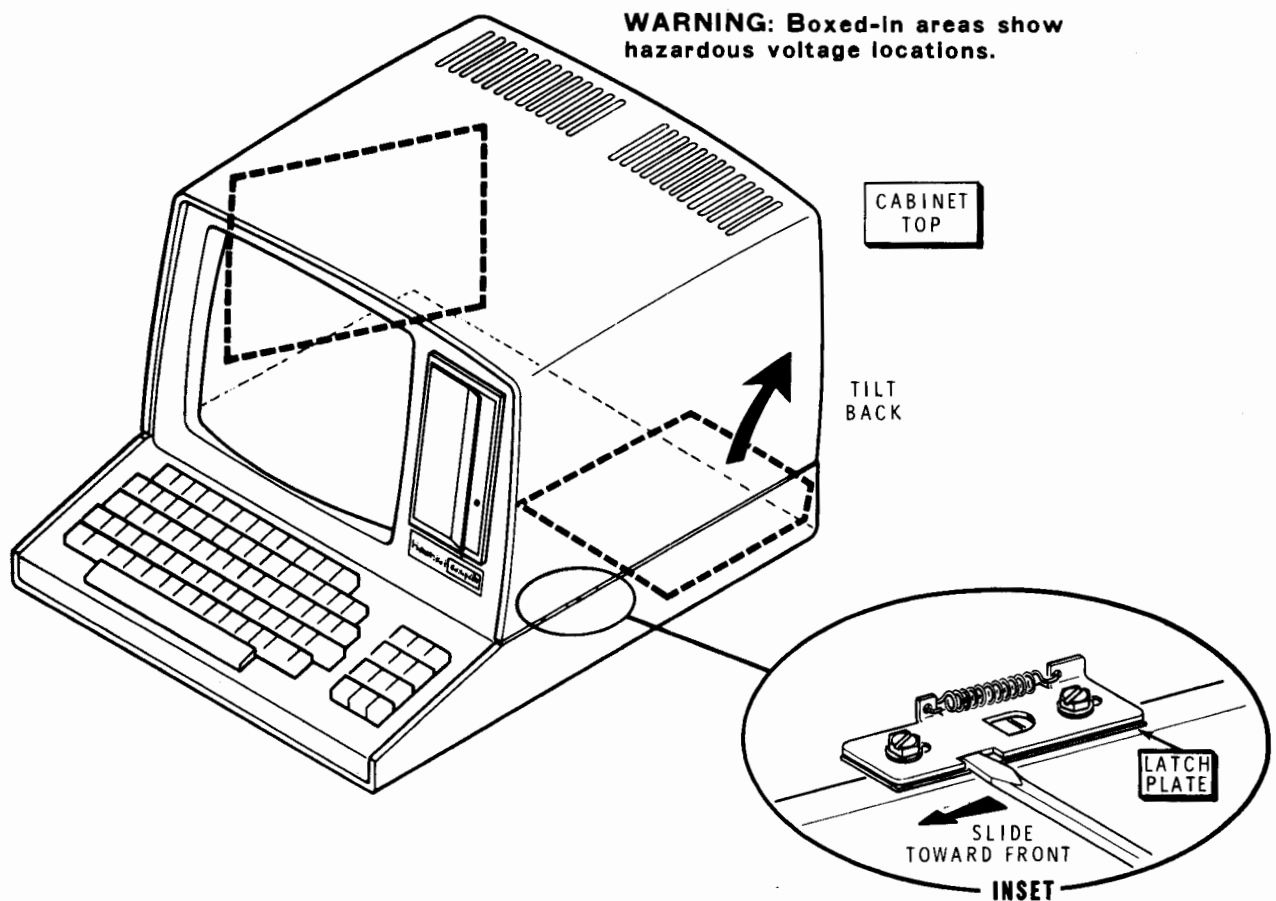

Figure 2-1
- Refer to the inset drawing on Figure 2-1, insert the blade of a small screwdriver into the notch in the latch plate, and then, as you lift upward on the front, slide the latch plate toward the front of the Computer about 1/4".
- **WARNING:** When the line cord is connected to an AC outlet, hazardous voltages can be present inside your Computer. See Figure 2-1.
Carefully tilt back the cabinet top. See Figure 2-1.